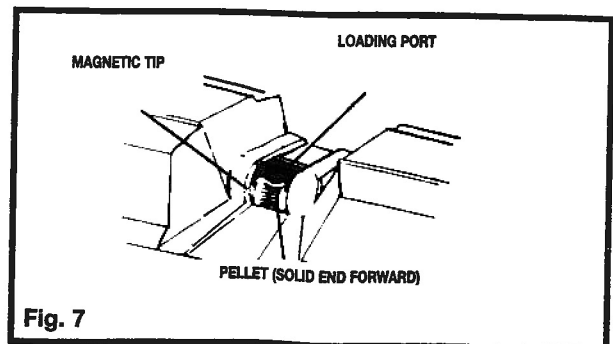

Fig. 7
**LOADING PELLETS:** With the bolt back and BBs removed from the magazine (See "TO EMPTY MAGAZINE," Page 9), advance the bolt forward until the magnetic tip is visibly even with the rear edge of the pellet loading port; lower the muzzle and load a pellet, solid end forward (Fig. 7). Push the bolt handle fully forward and the pellet is chambered in the firing position.